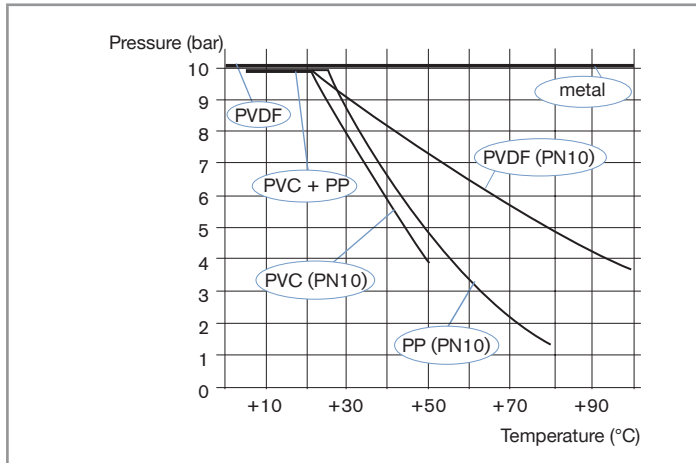

Fig. 2: Dependency between fluid pressure and fluid temperature, for the 8220 inserted in a S020 fitting, depending on the material of the S020 fitting
Fluid pressure	PN 10 Fluid temperature and material of the fitting S020 used, can limit the max. admissible pressure of the fluid (see Fig. 2)
Fluid temperature	Fluid pressure and material of the fitting S020 used, can limit the max. admissible temperature of the fluid (see Fig. 2)
- ▶ Take account of the dependency between the fluid pressure and the fluid temperature, according to the materials the fitting is made of (see Fig. 2, page 11).